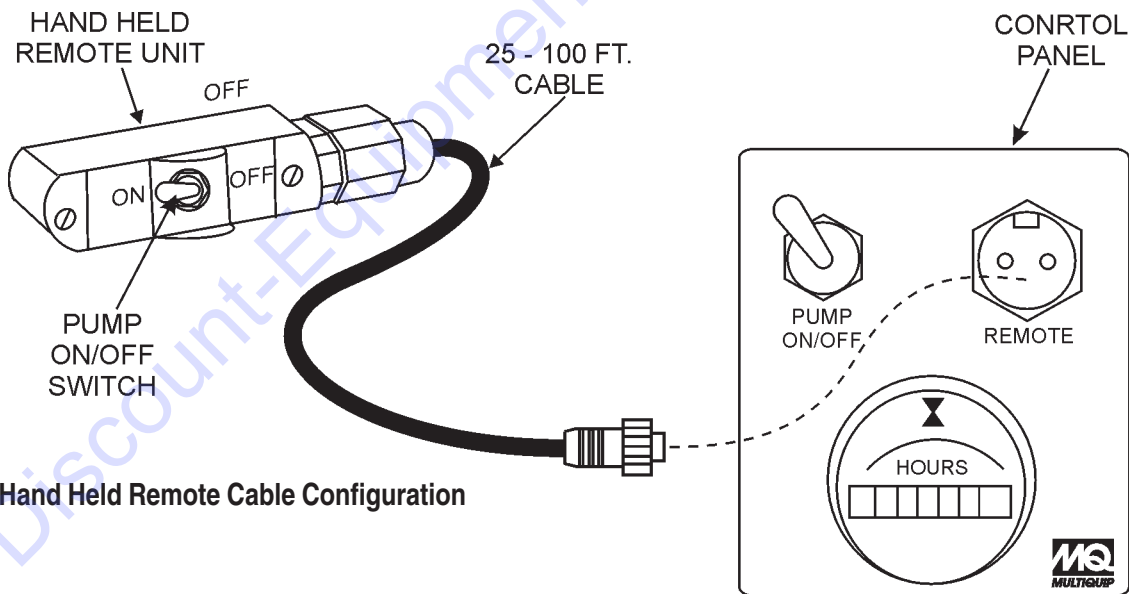

Figure 43. Hand Held Remote Cable Configuration
5. To **begin** pumping remotely, place the pumping control switch (Figure 43) on the hand held remote unit to the **ON** position.
6. To **stop** pumping remotely, place the pumping control switch (Figure 43) on the hand held remote unit to the **OFF** position.
4. Attach safety chains as shown in Figures 43 and 44. Remember to **cross** the safety chains underneath the pump frame.